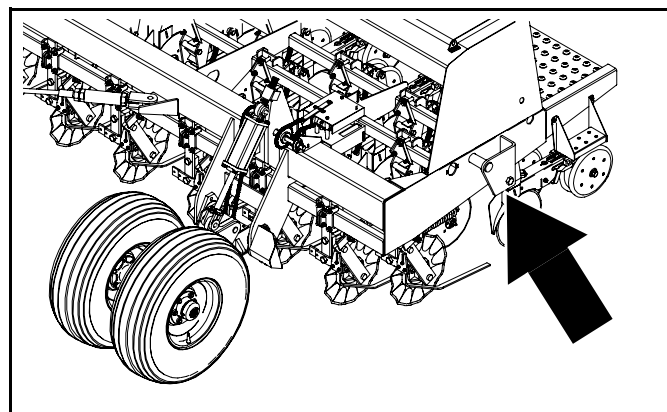

Figure 13
2. Begin to slowly fold the drill, watching if the box transport hooks will clear the transport carriers. The transport hooks are shown in Figure 13. Tool-Bar Cylinder Eye-Bolt Adjustment